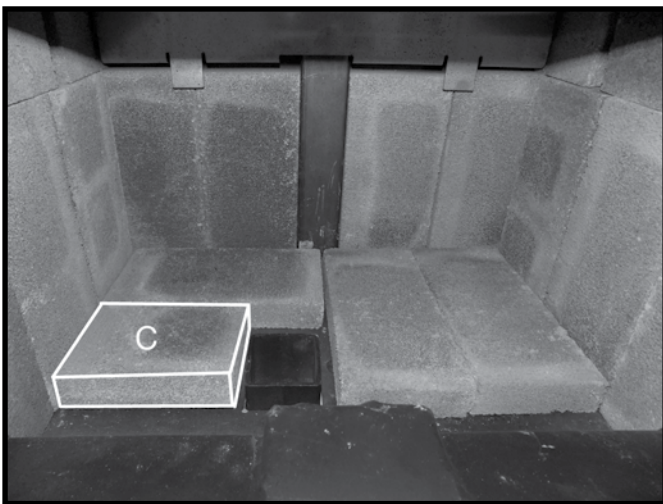

Figure 30: Fourth floor brick in place.
10. Place the "C" firebrick so that it sits beside the ash dump, against the left-hand side wall and the "A" firebrick located directly behind the ash dump (Figure 30).